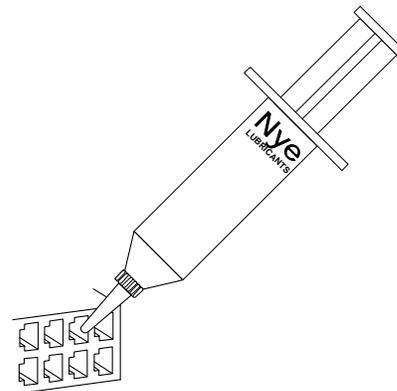

Figure 2
4. **Lubricate** each terminal using Nye® 760G lubricant as shown in figure 2. Apply enough lubricant to each terminal opening to completely fill each opening to a depth of .125" maximum.